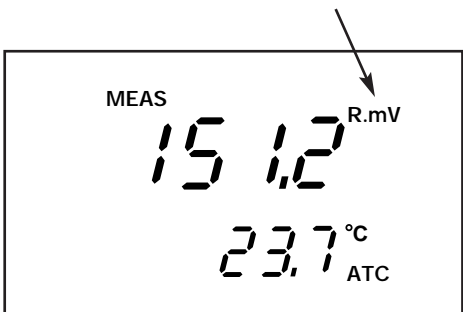

Figure 26
4. Press the **ENTER** key to confirm the reading and to return to the measurement mode. The primary display now shows the relative mV reading. The **R.mV** indicator appears in the upper hand corner. The meter automatically returns to the mV measurement mode the **ENTER** key is pressed. —See Figure 26.